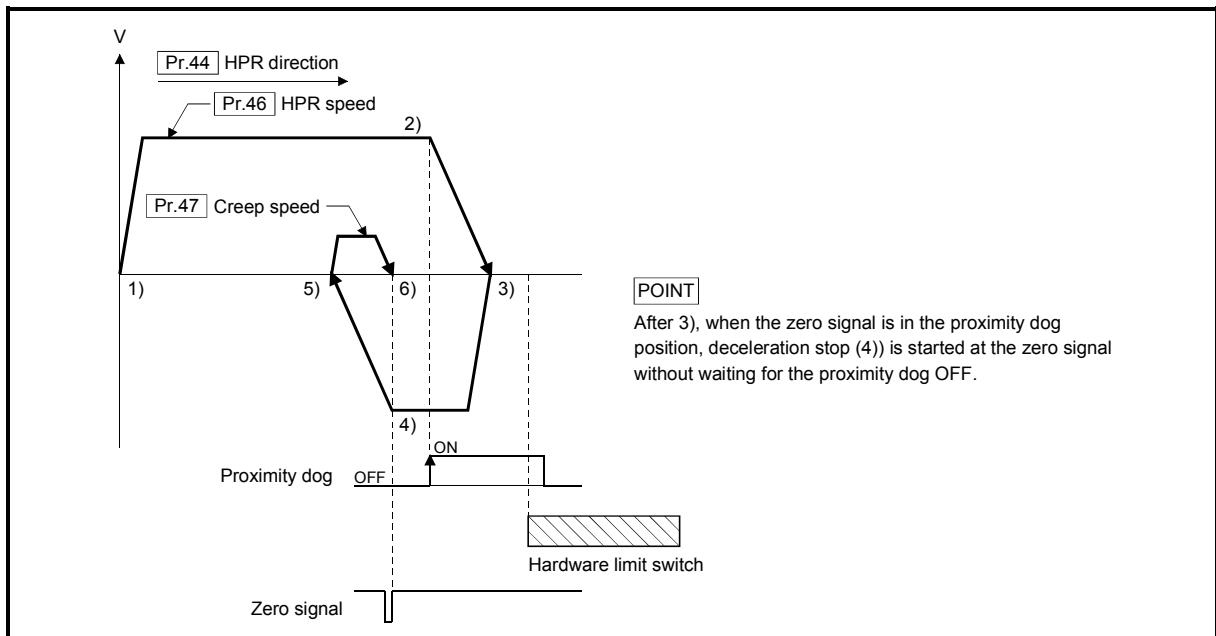

Fig. 8.10 Scale origin signal detection method machine HPR
- (7) Do not use the scale origin signal detection method HPR with the backlash compensation function.
- (8) When using the direct drive motor, make it passed the Z phase once before reaching 3) of Fig. 8.10.